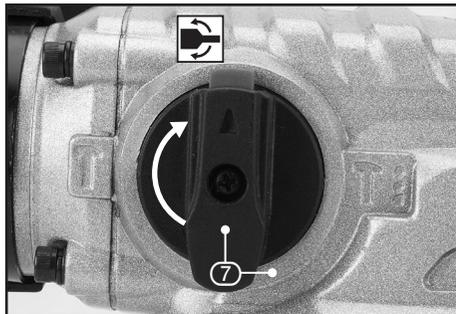

FIG.10
– FIGS.10 – 11
- Rotate the drilling/chiselling selector (7) to the rotational chisel selection setting.
- Switch the rotary/hammer selector (5) to the drill and hammer setting.